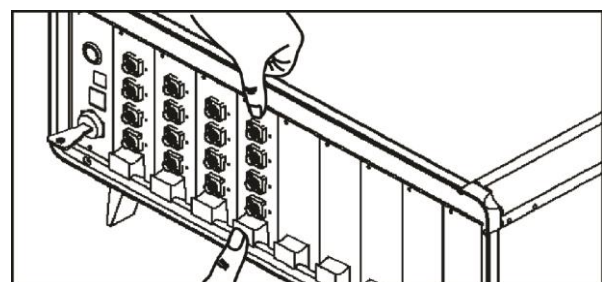

Figure 10 – Press the IQS-2800 Module to seat it into the Connector
6. Once the IQS-2800 reaches the connector at the end of the slot, press your thumbs on the *release latch* and the top of the IQS-2800 module as shown in Figure 10 to make sure the IQS-2800 seats correctly.